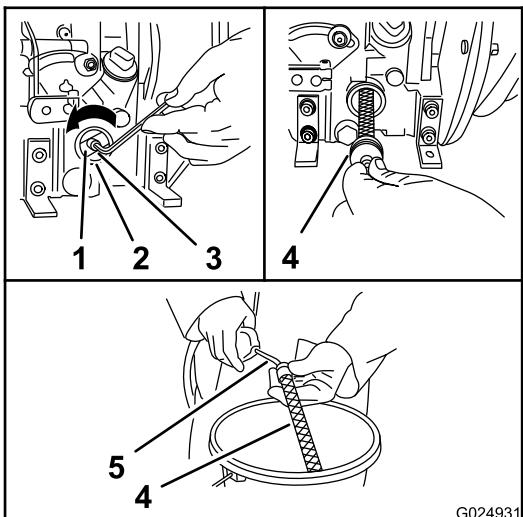

Figure 22
2. Loosen the socket-hex bolt approximately 5 turns counterclockwise (Figure 22).
3. Pull the oil filter out of the filter housing (Figure 22).
4. Blow out the oil filter with compressed air from the inside to the outside (Figure 22).
6. Insert the oil filter into the filter housing (Figure 22).
7. Before tightening the screw, ensure that the tension spring rests against the oil filter at both ends (Figure 22).
8. Tighten the socket-hex bolt (Figure 22).